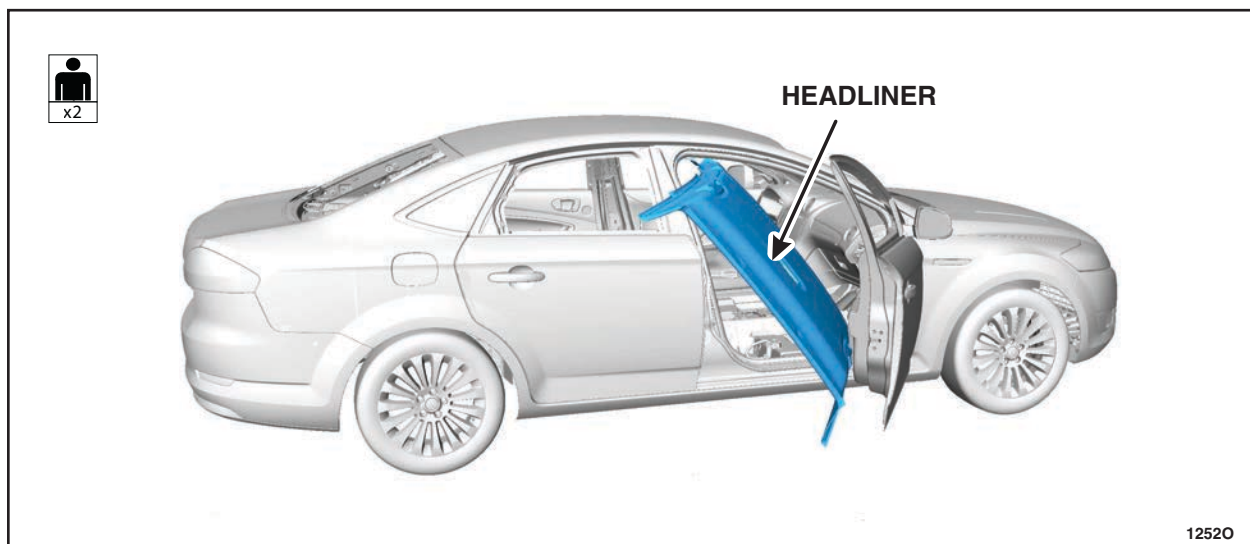

FIGURE 20
1. With the help of an assistant, remove the headliner through the front passenger side door. See Figure 20. Click here for headliner removal instruction video (removal shown, installation similar).
1. With the help of an assistant, install the headliner through the front passenger side door, reversing direction from the removal instruction video. See Figure 20.